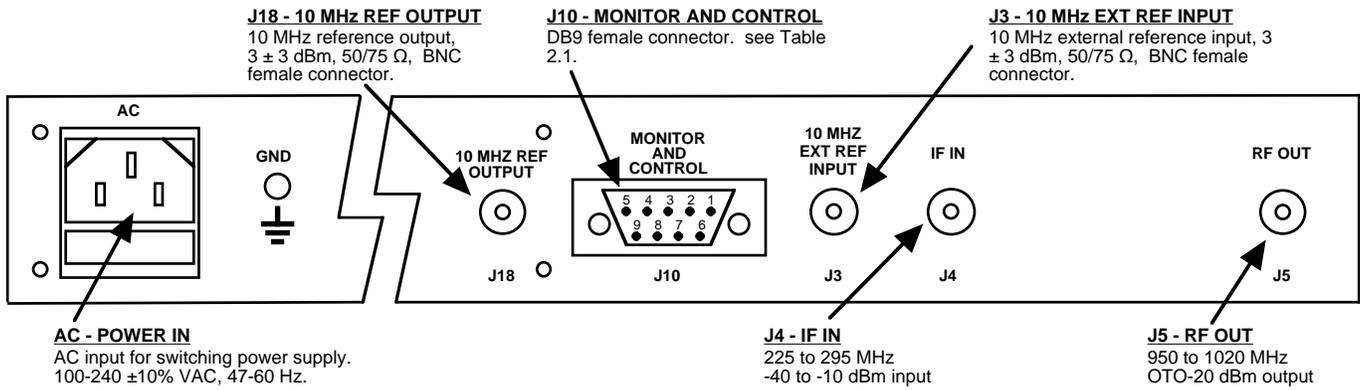

FIGURE 2.1 2083-22 Rear Panel I/O's
2.2 Rear Panel Input/Output Signals - Figure 2.1 shows the input and output connectors on the rear panel.
1. Connect a -40 dBm to -10 dBm signal to IF IN, J4 (Figure 2.1).